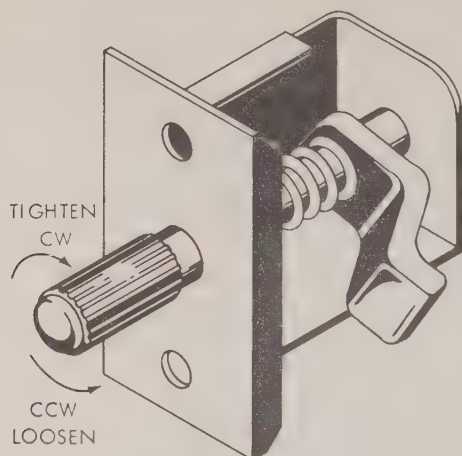

Figure 2-4. Adjustable Pawl Fastener
2-12. The amplifier is held within the cabinet by an adjustable-pawl fastener on the lower front panel (see Figure 2-4). Turning the knurled shaft of the fastener one-quarter turn clockwise engages the catch behind the lip of the amplifier opening in the cabinet. By continuing to turn the shaft clockwise, the pawl is drawn toward the front of
- o. Engage latches at bottom of each amplifier front panel by rotating the shafts of the adjustable-pawl fasteners (Figure 2-4) one-quarter turn clockwise. Continue turning shafts clockwise until finger tight. This pulls amplifier and module connectors snugly together and holds the amplifiers firmly in the module.